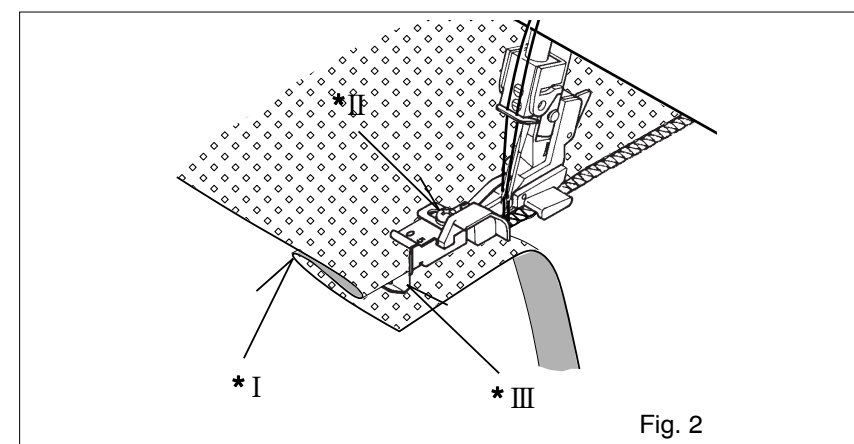
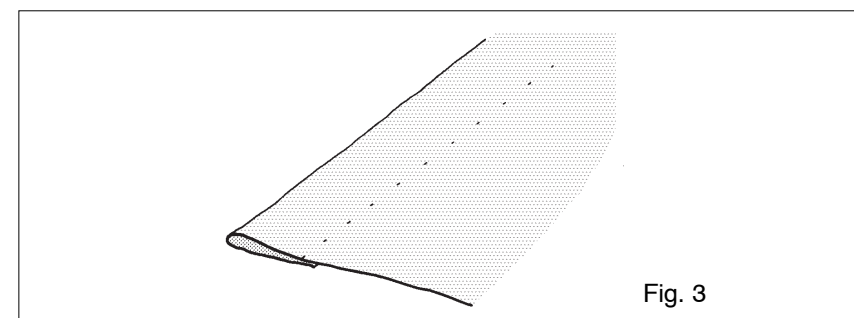

Fig. 2
Fig. 3
2. Place fabric under the presser foot with the $\$wrong\$\$ side up. Feed the folded edge through the guide in the front of the foot and lower the presser foot lever. Try a stitch (or several stitches) on a spare piece of the actual fabric, and adjust the guide so that the needle just catches the fold. Adjust the guide by means of the small screw on the top of the foot – See Fig. 2.
3. When correctly set, sew the hem. The outside edge will be cut away by the machine – See also Fig. 2. After completion, open out and press again. The stitches should be almost invisible on the $\$right\$\$ of the fabric – See Fig. 3.